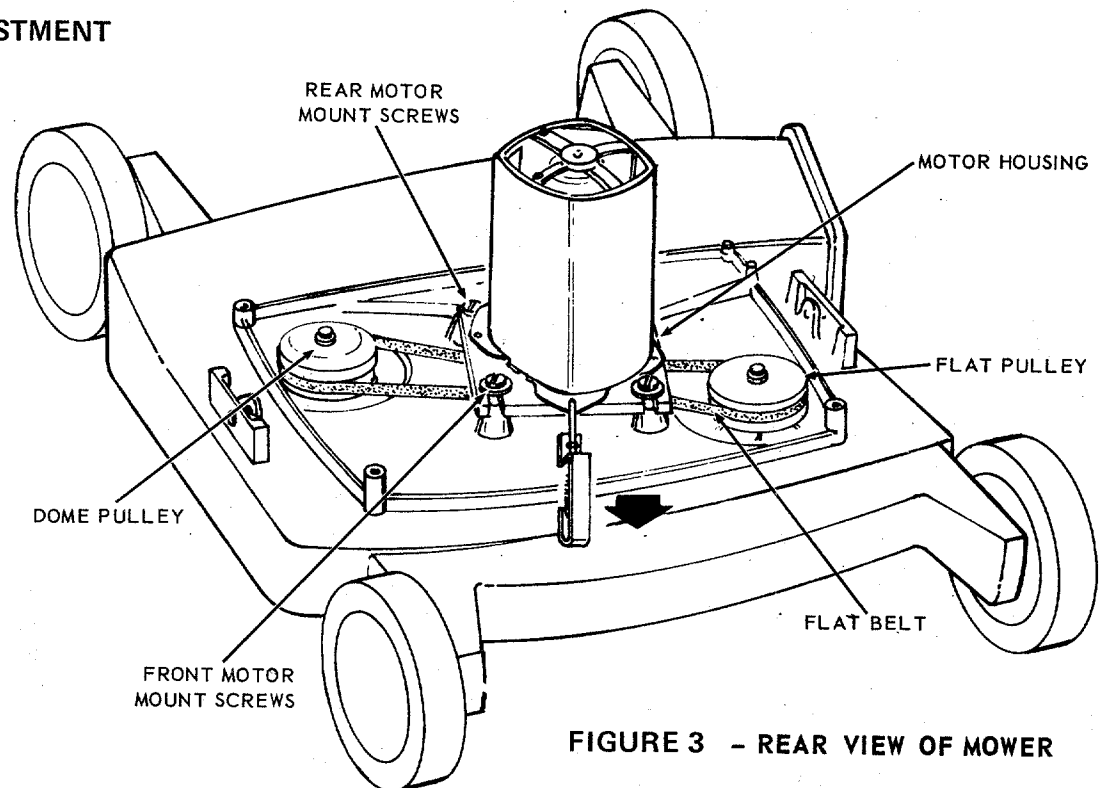

FIGURE 3 - REAR VIEW OF MOWER
BELT ADJUSTMENT: (See Figs. 3 and 4)
5. Place the hook of the pull gage into hole of the motor plate (see fig. 3) on the back side of the mower. (The dis-